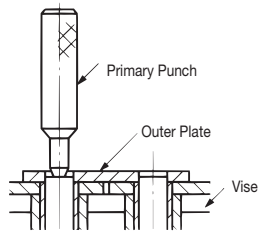

Figure 14: Tapping Pin with Primary Punch
1) Using a primary punch suitable for the chain size (refer to the Tsubaki Drive Chain Accessories section in a separate catalog), place the punch on the head of the pin that was ground down and strike with a hammer. Be sure to strike the pins on the outer link alternately to remove them evenly and at the same time. Strike the pins until they are just about to release from the outer plate (Figure 14).